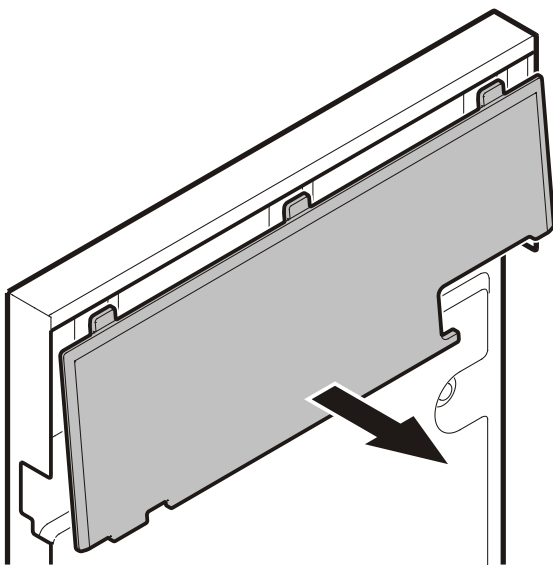

Figure 18
2. Remove cover plate of both panels (**Figure 18**). Replace this cover plate once attachment of the panels is complete.